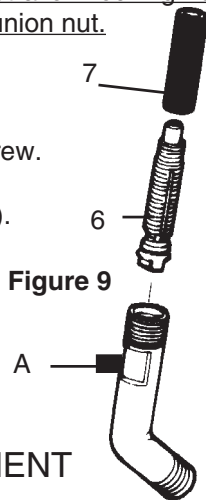
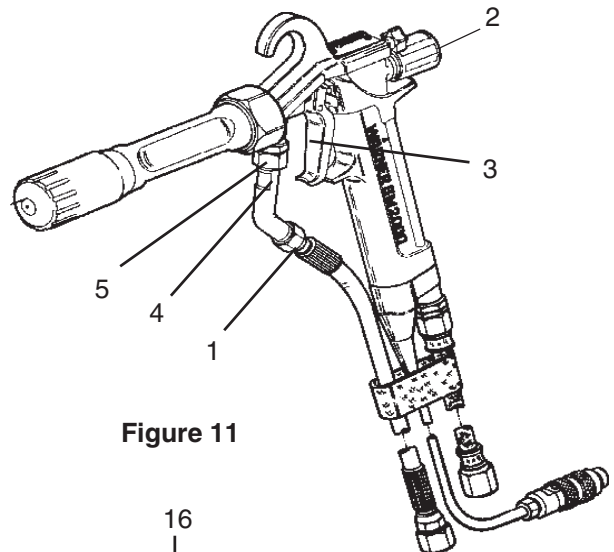

Figure 9
Figure 11
1. Disconnect material hose at fitting (1) Fig 11. Hold material connecting tube with the universal spanner wrench at surface (A).
2. Disconnect union nut (4). Do not allow locking nut (5) to rotate while disconnecting union nut.
3. Unscrew red filter screw. Fig. 9
4. Slip filter cylinder(6) from filter screw.
5. Rinse or replace filter cylinder, (7).
1. Actuate trigger (3) and unscrew trigger lock knob (2), remove the compression spring. Fig. 11
2. Remove screws holding trigger assembly in place and remove trigger (3). Fig. 11